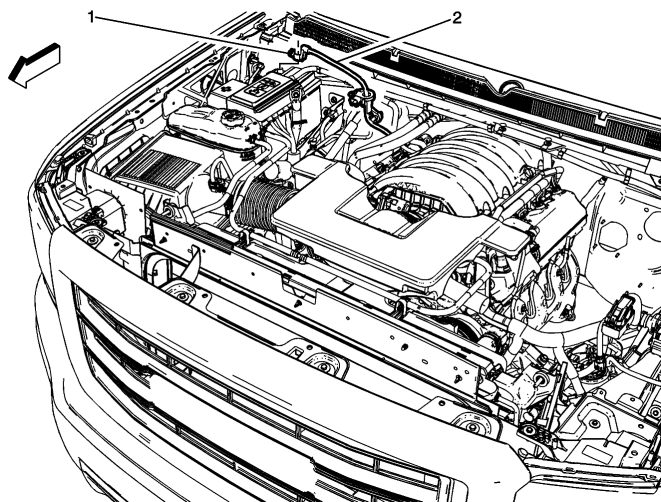

Fig. 1 Battery ground cable clamp fastener disconnect
1. Disconnect battery ground cable clamp fastener (1) and set battery ground cable (2) aside, **Fig. 1**.
6. Connect battery ground cable clamp fastener (1) onto battery and torque fastener to 44 inch lbs., **Fig. 1**.